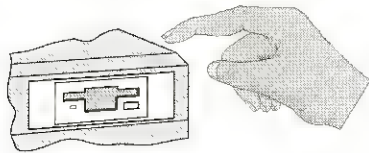

Figure 2-2: Discharge static electricity.
1. Touch your system's metal casing to ground yourself and discharge any static electricity in your body (see Figure 2-2).